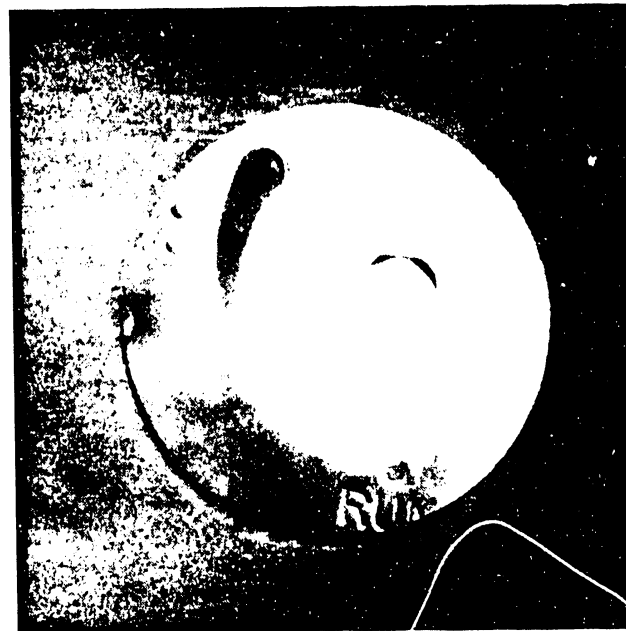

Figure 4-6. Quantum Drive Actuator Lock
6. Unlock the actuator (figure 4-6) by rotating the actuator lock counterclockwise as far as it will go (approximately 1/2 turn). The embossed arrow will now point to RUN.